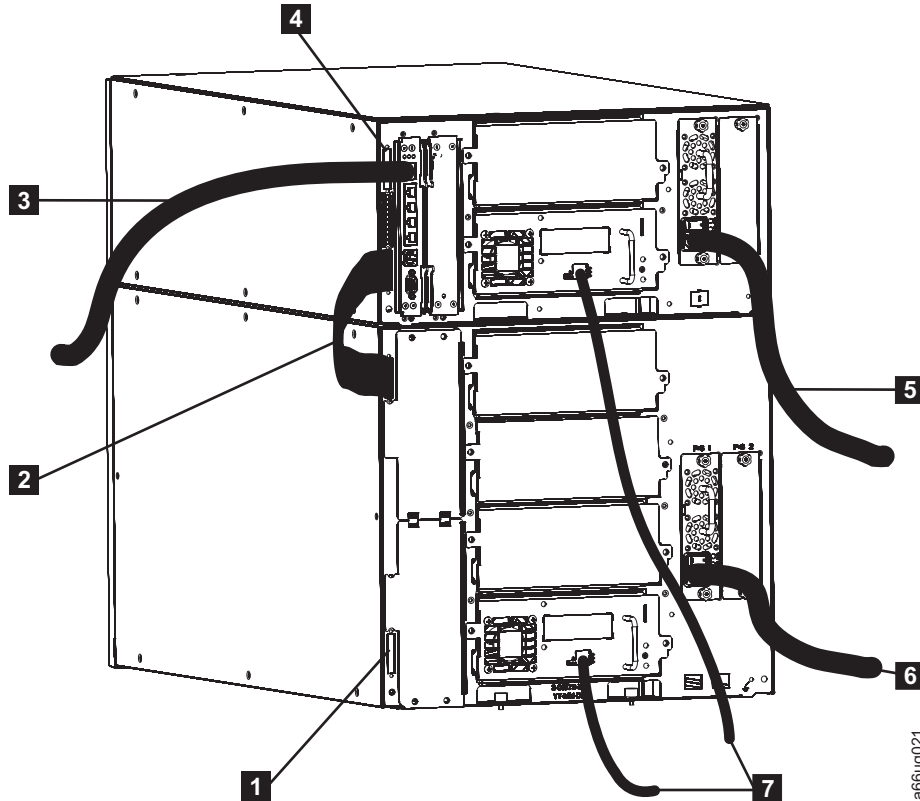

Figure 3-17. Cabling of a 14U library containing multiple fibre drives
1. Install a module communication terminator in the upper receptacle of the upper module of your library (**4** in Figure 3-17).
2. Install one end of the module-to-module communication cable (**2** in Figure 3-17) in the lower receptacle of the upper module of your library, then install the other end in the upper receptacle of the lower module of your library.
3. Install a module communication terminator in the lower receptacle of the lower module of your library (**1** in Figure 3-17 on page 3-19).
4. Install one end of the customer-supplied Ethernet cable (**3** in Figure 3-17 on page 3-19) in the Library Control Blade Ethernet port, then connect the other end of the cable to your network.
5. Install one end of the drive fibre cable (**7** in Figure 3-17 on page 3-19) in a fibre drive in the library, then connect the other end of the cable to your network. Repeat this for every fibre drive in your library.
6. Install one end of the power cord (**5** and **6** in Figure 3-17 on page 3-19) in the receptacle in a power supply in your library, then connect the other end of the cord to your power source. Repeat this for every power supply in your library.
- Install one end of the drive fibre cable (**7** in Figure 3-17 on page 3-19) in a fibre drive in the library, then connect the other end of the cable to your network. Repeat this for every fibre drive in your library.